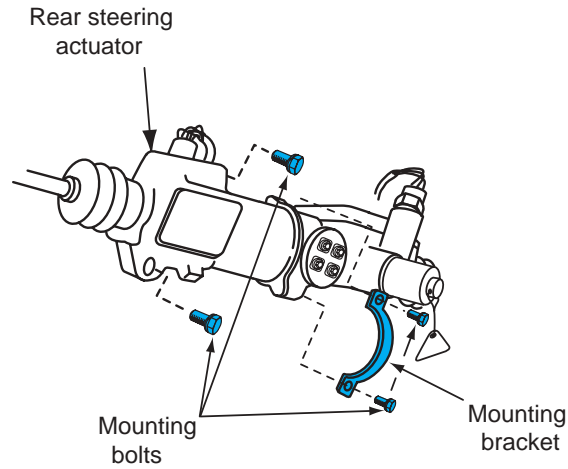

Figure 13-8 Removing the four mounting bolts, bracket, and rear steering actuator.
9. Remove the four mounting bolts and bracket, and remove the rear steering actuator (Figure 13-8).